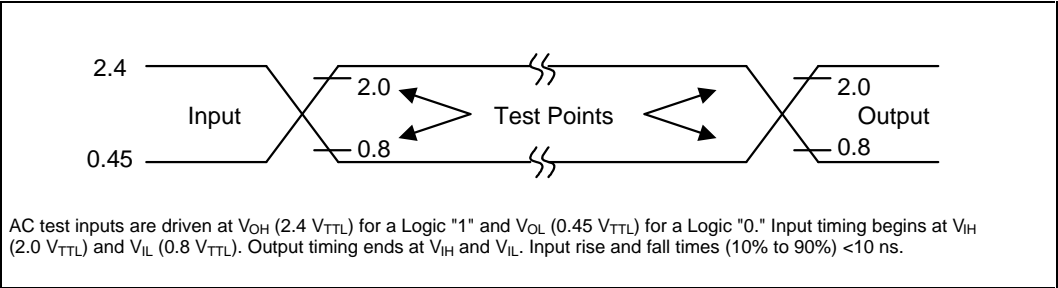

Figure 13. Transient Input/Output Reference Waveform for $V_{CCQ} = 5.0\text{ V} \pm 10\%$ (Standard Testing Configuration)
- See Figures 13–15, *Transient Input/Output Reference Waveform for $V_{CCQ} = 5.0\text{ V} \pm 10\%$* , *Transient Input/Output Reference Waveform for $V_{CCQ} = 2.7\text{ V} - 3.6\text{ V}$* , and *Transient Equivalent Testing Load Circuit* for testing characteristics.